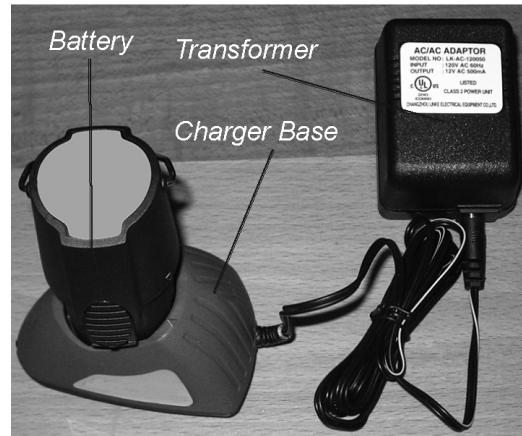

Figure 2
1. Charge the battery pack only with the included Charger Base (25). Use of other chargers may cause battery failure including explosion.
2. Ensure that the Charger Base (25) is connected to a circuit breaker protected 120 VAC, 60 Hz power supply only.
3. Connect the Charger Base to the Transformer (24), by plugging it in as shown in Figure 2. Plug the Transformer (24) into a 120 VAC wall outlet.
4. Insert the battery pack into the Charger Base (25) by aligning the ribs on the Charger Base with the grooves in the battery pack. Press the battery pack into place.
9. **Note: The Charger Base (25) will not shut off automatically.** When the battery is fully charged (after 3 to 3-1/2 hours), unplug the battery charger and remove the battery pack. Do not leave the battery in the Charger Base (25) indefinitely.